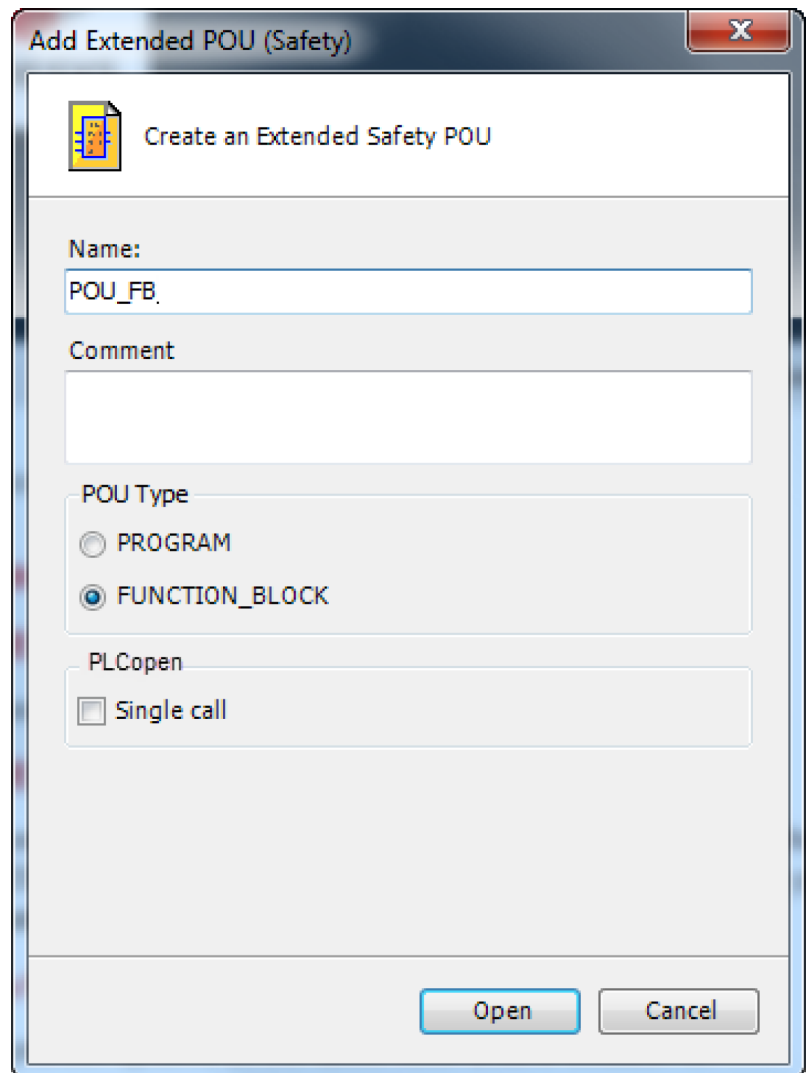

Fig. 34: Example: Dialog for the creation of an Extended POU, POU type: "FUNCTION\_BLOCK"
3. ▶ In the Add “Basic” POU or “Add Extended POU” dialog (see Fig. 34), enter the name and comment for the POU and select the POU type “PROGRAM” or “FUNCTION\_BLOCK”.